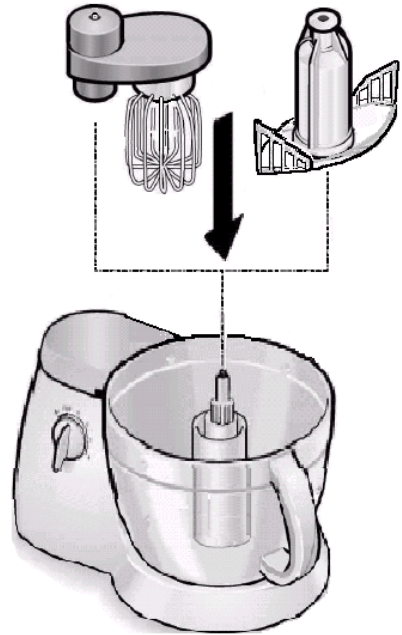

Figure 8.
3. Engage the whipping whisk on the dual drive of the power unit by placing it over the center column, as shown in figure 8. Once in place, check to make sure